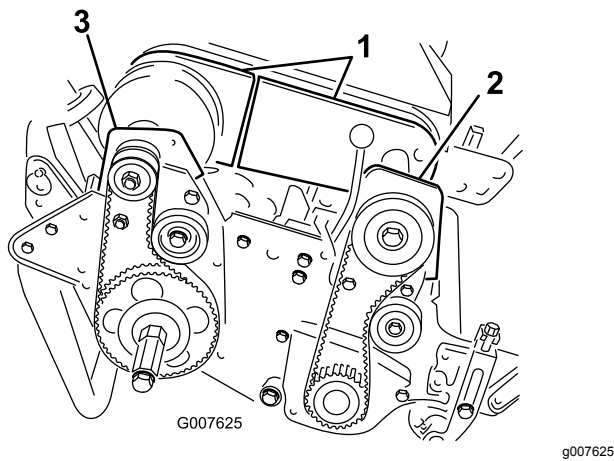

Figure 48
4. Remove the bolts that secure the front and rear sections of the differential cover to the differential housing and slide the cover sections away to expose the belt (Figure 48).
6. Remove the 2 bolts and 2 locknuts that secure the front clutch housing to the side plate (Figure 48).
8. Remove the 2 bolts and 2 locknuts that secure the right rear bearing housing to the side plate (Figure 48).